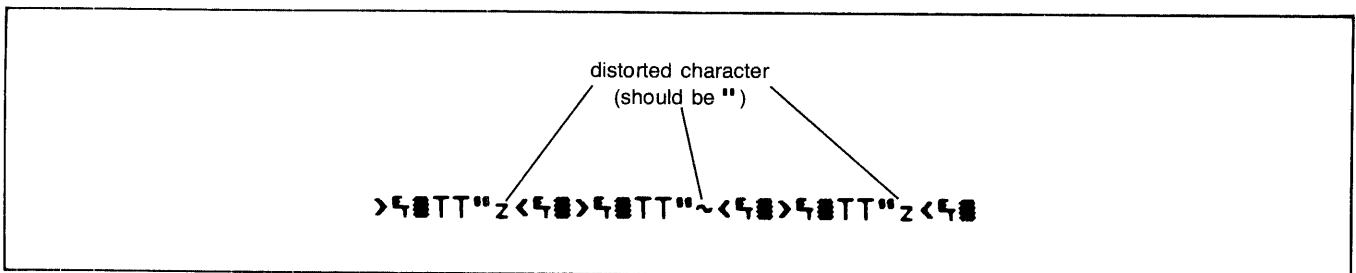

Figure 5-20. Character Distortion in Group Poll
In group poll operations the last three characters of the poll sequence (second " , ENQ, PAD) may be distorted due to the response of polled terminals (see figure 5-20). Once a terminal detects the first double quote character ("), it begins its response with a transition on the Request to Send Line (CA). This causes the monitor to begin watching for data from the terminal instead of the computer. This distortion occurs only within the monitor and does not affect the operation of either the computer or the other terminals.